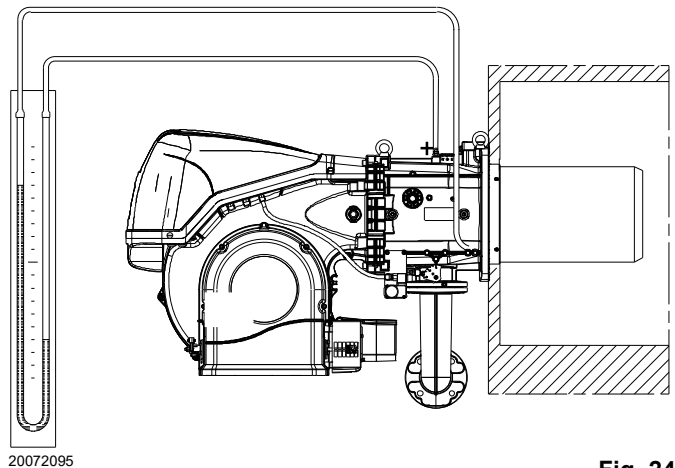

Fig. 24
- Fit a U-type pressure gauge or a differential pressure gauge (Fig. 24), with socket (+) on the gas pressure of the pipe coupling and (-) in the combustion chamber. The manometer readings are used to calculate MAX burner output using the Tab. L.